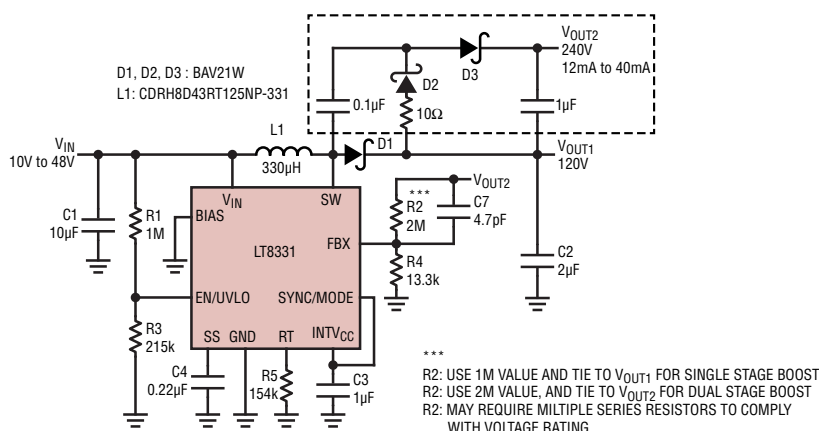

Figure 1. 120V or 240V Output Boost Converter
PULSE-WIDTH MODULATION (PWM) is used in applications ranging from controlling valves or pumps to adjusting the brightness of LEDs. In this proposed design, a PWM waveform is the basis for an analog-to-digital-converter (ADC) implementation. The PWM waveform can be easily generated through a comparator using a triangle or sawtooth waveform and variable dc voltage (Fig. 1). As the input varies from 0 to 10 V dc, the pulse width changes proportionately. A microcontroller reads the width digitally and displays the corresponding dc input voltage to the user after engineering conversion through the RS-232 port of a legacy machine.
2. Implementing the concept shown in Fig. 1 requires a standard comparator IC and some passive components (a). The complete proposed circuit for measuring the pulse width of a PWM wave is implemented using a CPLD, and requires digital logic for the synchronizer, counter, sequencer, latches, and three-state buffers that interface to the microcontroller (b). A PIC microcontroller interfaces to the digital logic (c).
High voltage applications are easily accomplished using a simple boost converter, as shown in Figure 1. This application can output 120V at 25mA to 80mA in a straight boost configuration or 240V at 12mA to 40mA as a two stage boost by adding a few components, as shown inside the dotted line. The load can be taken entirely from V_{OUT2} , or a combination of V_{OUT1} and V_{OUT2} .
u , v , and w of the system, which then can be observed on an oscilloscope to examine the system's chaotic behavior (Fig. 1). These signals can be used to encode an information signal for secure transmission.²